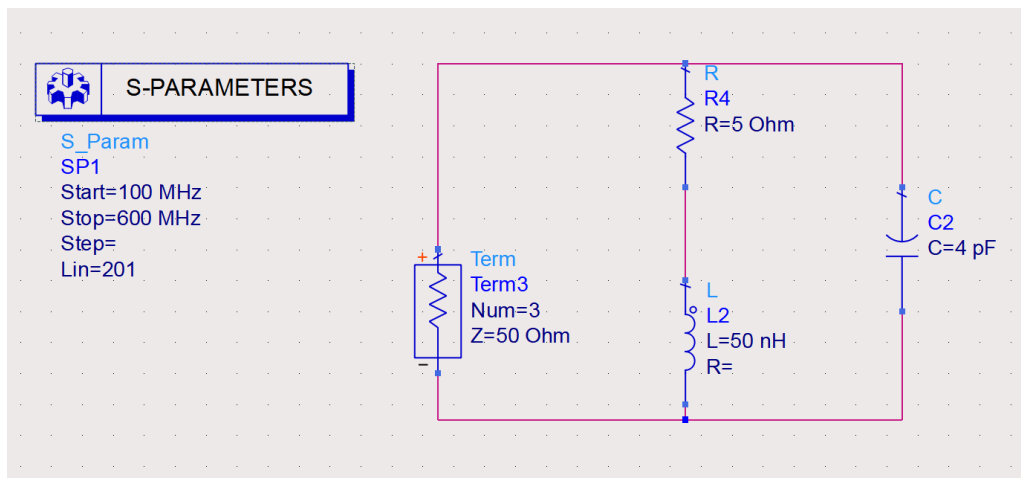

Figure 4: Schematic of inductor model circuit
- (Week 2) In ADS, draw the circuit as shown in Figure 4. Vary the value of R and C by setting up batch simulation. Make plots of real and imaginary impedance / Z-parameters (HINT: use ads function $stoz(S(1,1))$). Explain the following items with screen-shots of simulation results: